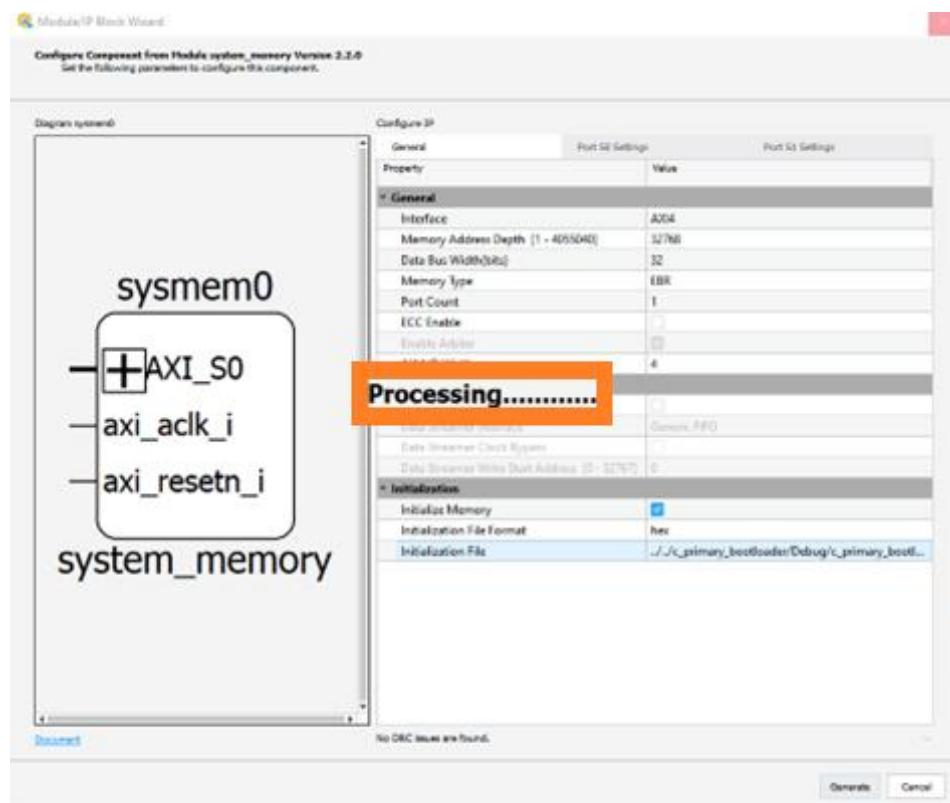

Figure 8.44. Click **Generate**
8. Click **Generate** on the bottom-right corner of the IP Block wizard as shown in Figure 8.44.